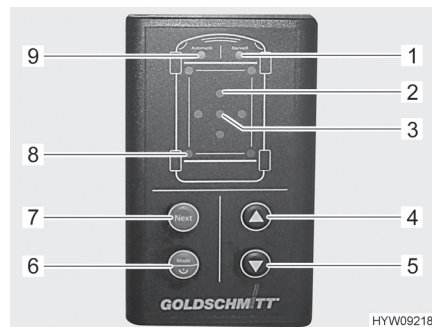

Fig. 45 Control unit (hydraulic steady legs)
If the vehicle's tilt is too great, the corresponding red "Inclination" LED flashes (Fig. 45,2). Select a suitable location, or operate the steady legs manually at your own risk.
If when being extended a steady leg reaches its maximum length due to a depression in the ground, the "Manual mode" (Fig. 45,1) and "Automatic mode" LEDs flash (Fig. 45,9) three times. If this happens, retract the steady legs, place suitable supports under the affected steady leg and repeat the procedure.
- Press the "On/Off/Mode" (Fig. 45,6) button for longer than 1 second. After switching on, a signal tone sounds and the "Automatic mode" LED (Fig. 45,9) lights up.
- Press the "On/Off/Mode" button (Fig. 45,6) briefly. The mode changes between Manual and Automatic. The corresponding LED (Fig. 45,1 or Fig. 45,9) lights up.
- Press the "Extend" (Fig. 45,5) button. The alignment procedure is performed automatically. The "Steady leg" LEDs (Fig. 45,8) flash as long as the steady legs are moving.
If the vehicle has folding supports: Movement of the steady legs ceases after unfolding to give you the chance to put chocks in place. The "Automatic mode" LED (Fig. 45,9) flashes rapidly.
- Press the "Extend" button (Fig. 45,5) again. The alignment procedure is continued.
- Press the "Retract" button (Fig. 45,4). The steady legs retract completely. The "Steady leg" LEDs (Fig. 45,8) flash as long as the steady legs are moving.
- Press the "On/Off/Mode" button (Fig. 45,6) briefly in Automatic mode. The "Manual mode" LED (Fig. 45,1) lights up.
- Pay attention to the "Inclination" LEDs (Fig. 45,2). An illuminated LED indicates that the vehicle must be raised on this side.
- Press the "Next" button (Fig. 45,7) as often as necessary until the desired pair of steady legs is selected. The corresponding "Steady leg" LEDs (Fig. 45,8) light up.
- Press the "Retract" (Fig. 45,4) or "Extend" button (Fig. 45,5) until the desired position is reached.
- Press the "Next" button (Fig. 45,7) again until another desired pair of steady legs is selected. Repeat the procedure until the vehicle is aligned. The vehicle is aligned when the green "Position ok" LED (Fig. 45,3) lights up.
- Press the "On/Off/Mode" (Fig. 45,6), "Extend" (Fig. 45,5) and "Retract" (Fig. 45,4) buttons simultaneously and keep them pressed for 3 seconds.
- Release the buttons following audible acknowledgement and illumination of the "Position ok" LED (Fig. 45,3). The position is saved as the OK position.